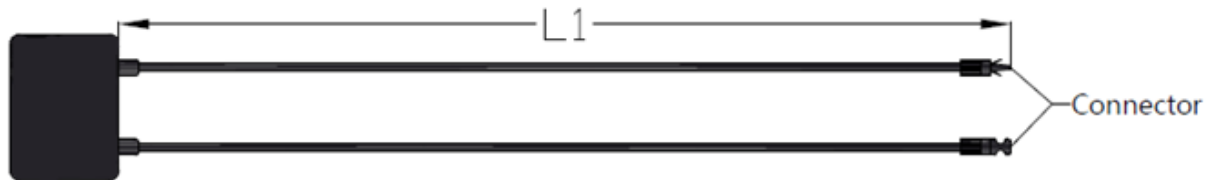

Fig. 12 (1) The full-cell module junction box
- l) The length of the junction box shall be determined according to the component specifications and the customer's design proposal. As shown in Figure 12 below, consider the length of the lead wire before designing the wiring.